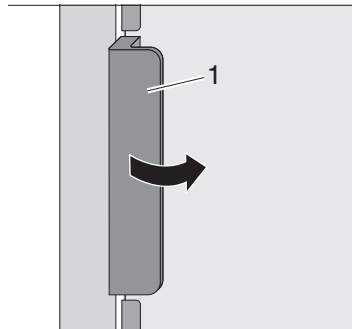
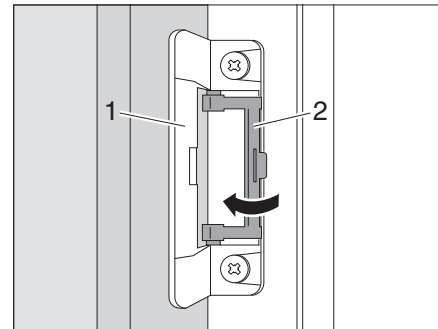

Fig. 334 Opening the refrigerator door
Fig. 335 Locking the ventilation position
- Open the refrigerator door at the handle (Fig. 334,1). The locking mechanism (Fig. 335,1) is released automatically.
- Fold open the latch (Fig. 335,2).